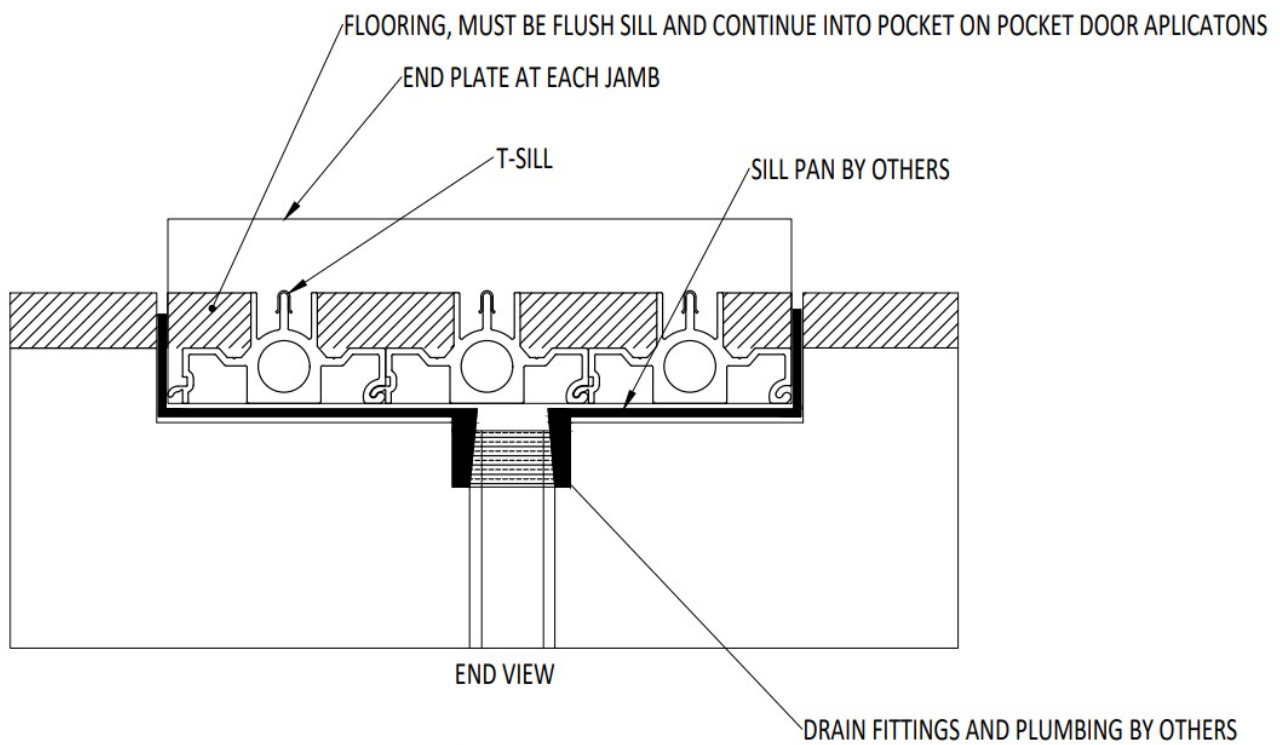

Figure 6
- Front Weep with pan and drain by others (See Figure 6).
8. **Front Weep Sills** – Sills that have a weep slot located on the bottom surface 6" from each end and 6" from each stagger location will allow water to drain out the bottom of the sill directly into a water management system supplied by others, such as a sill pan or equivalent. (See Figure 6). If a slot drain or similar system is used, the door sill pan can be drained into the slot drain. Ensure that the slot drain bottom is adequately below the sill pan to ensure water only